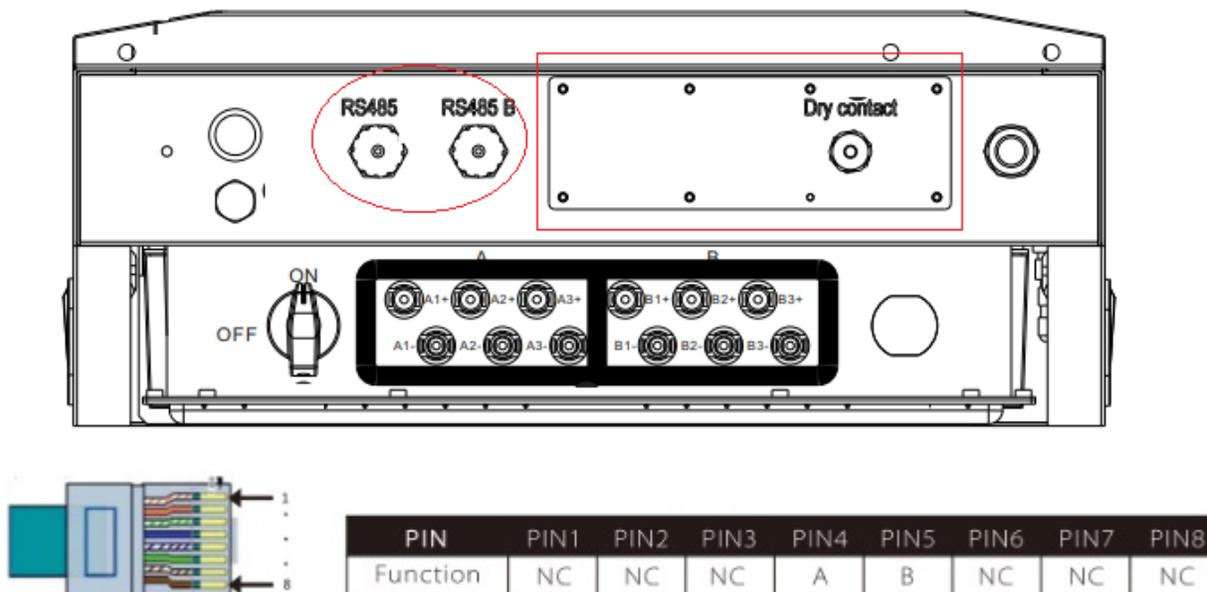

Figure S1 – Waaree String Inverter Connections
1. Please insert the Lan Cable in RJ45 port of the inverter and check the communication interface as shown in *Figure S1*.